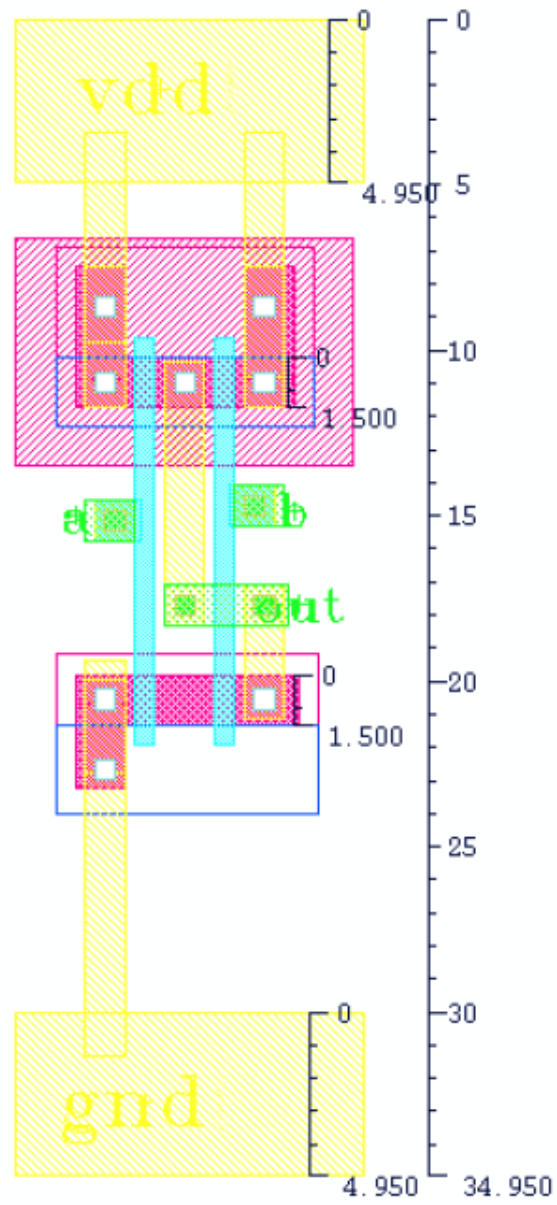

Figure 2: A layout reference of the *Nand* gate Note: This is a different CMOS technology
- A reference for the layout is shown in Figure 2.